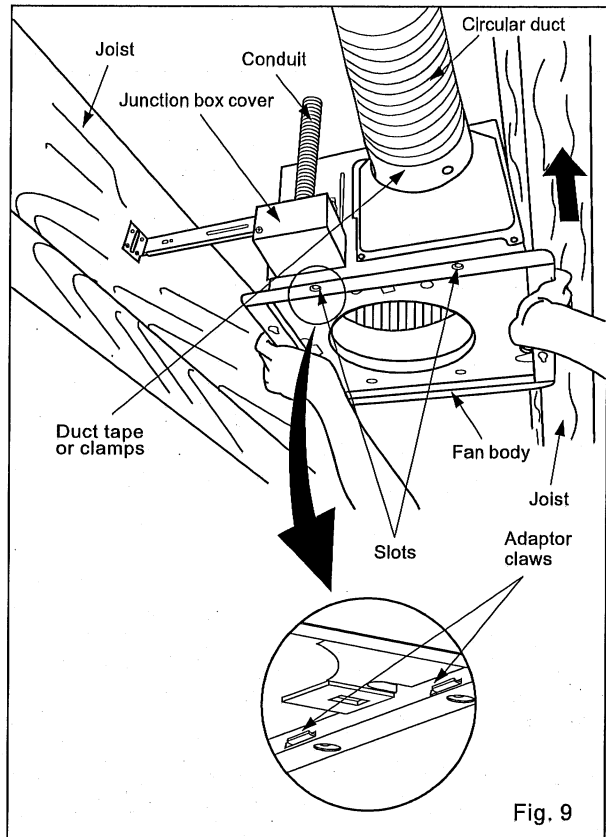

Fig. 9
5. Insert the fan body into joists. (Fig.9)
4. Insert fan body (without blower section) into joists. (Fig.9)